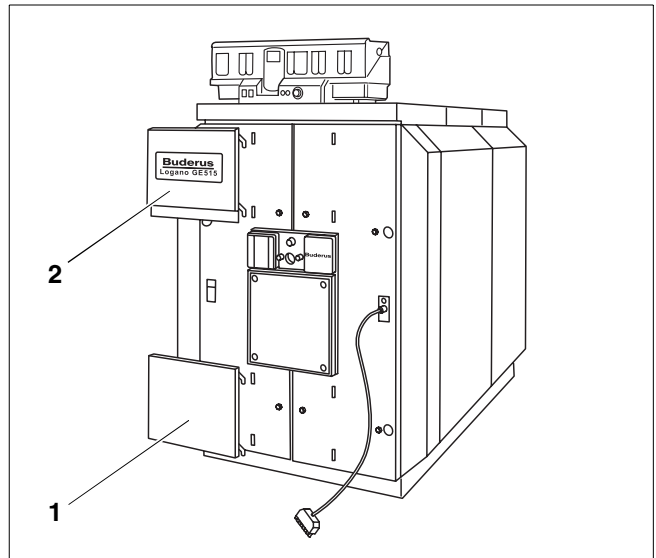

Fig. 57 Fitting burner door blanking plates
- Hook the burner door blanking plates into the burner door cladding (Fig. 57, **ref. 1 and 2**).